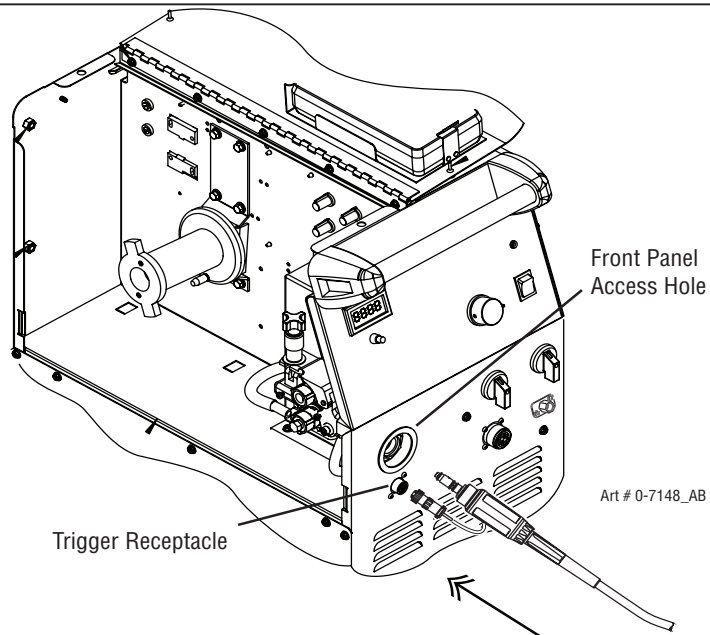

Figure 3-5: Route Gun Cable Through Front Panel Access Hole and Connect Trigger
2. Route the gun cable through the access hole in the front panel. Refer to Figures 3-5 and -3-6.